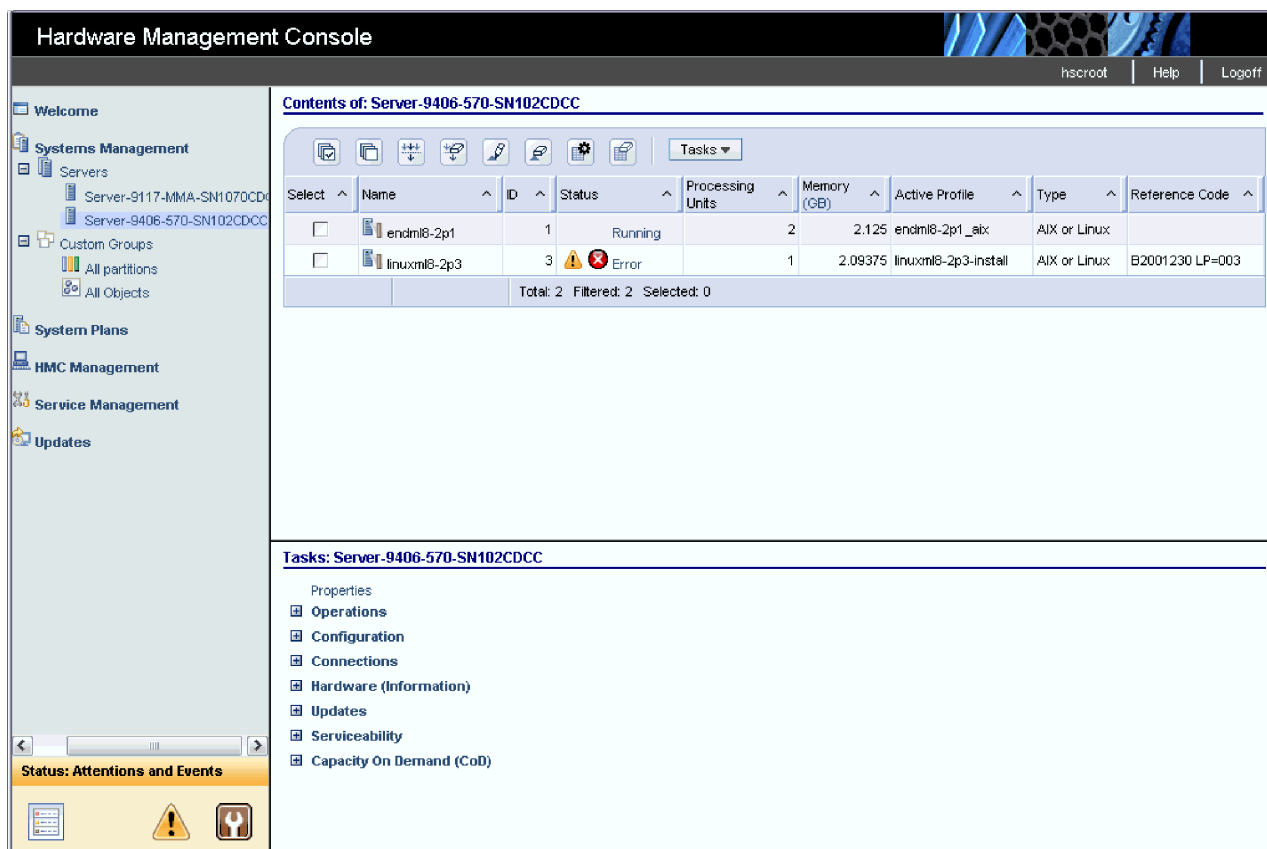

Figure 10. Partitions work pane
**Partitions:** When you select a managed server in the navigation pane, the work pane displays the list of partitions defined on the server as shown in Figure 10 on page 28.